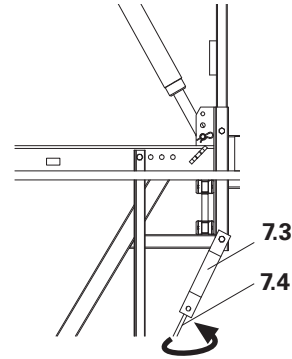

Fig. B1.34b
2. Screw in the DW 15 Tie Rod (7.4) into the nut of the Tension Anchor Connector (6.2). (Fig. B1.34b)